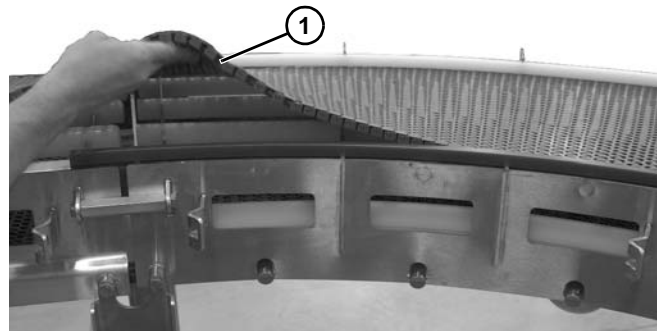

Figure 4
6. For Modular Belt Curve conveyor - disengage chain (**Figure 4, item 1**) from curve module.